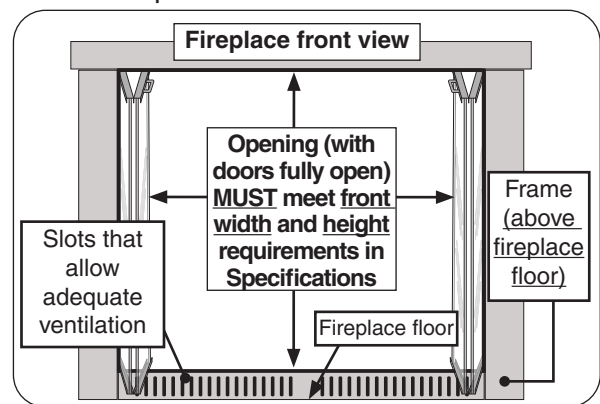

Fig. 9-2 Glass doors frame ventilation (if applicable)
If this burner system is installed in a fireplace with glass doors, and the doors have a frame that obstructs airflow to the fireplace floor, the frame **MUST** have slots (above the fireplace floor) that allow adequate ventilation. See Fig. 9-2.
**Important:** The opening (with doors fully open) **MUST** meet the minimum fireplace size front width and height requirements. See Specifications and Fig. 9-2.